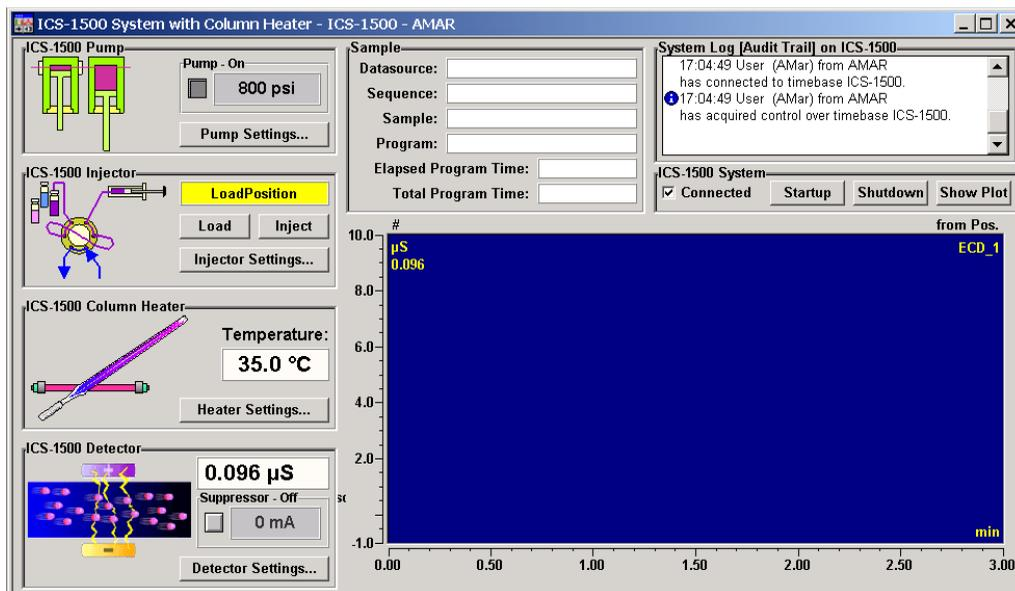

Figure B-33. ICS-1500 System Control Panel Example
19. Double-click the .pan file to open the Control panel for your system (see the example in Figure B-33).